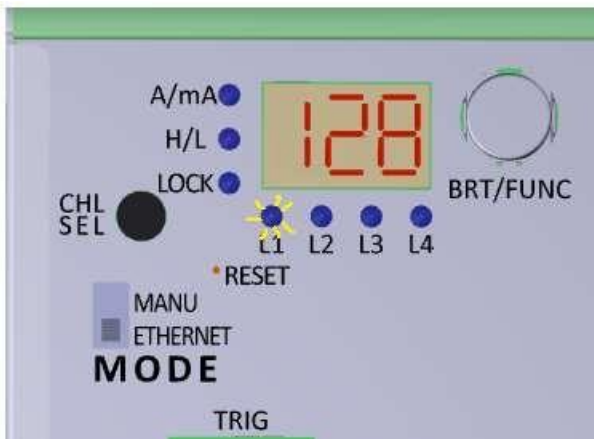
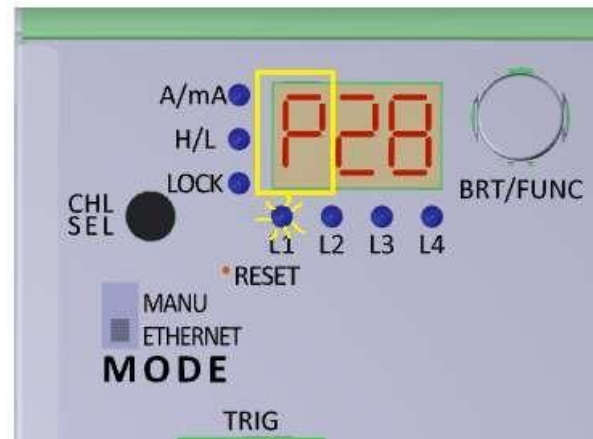

Fig.12
Fig.13
-Step 3. Press **FUNC** key to enter the Mode setting: (Fig 12/Fig 13)
- The CH indicator is still flash / Display show PXX (Fig 13)